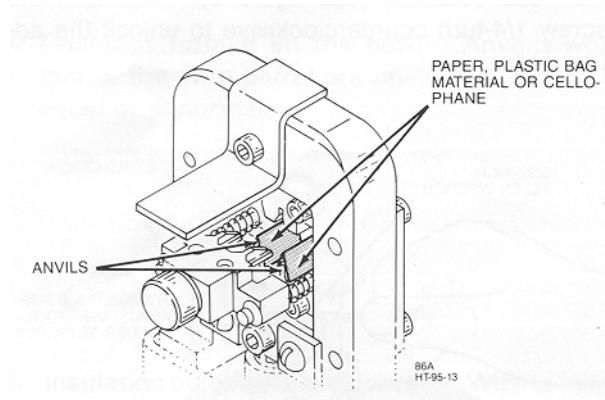

Figure 11
4. Cut out two strips of protective material. Then fold the strips in half and place them over the anvils (see Figure 11).